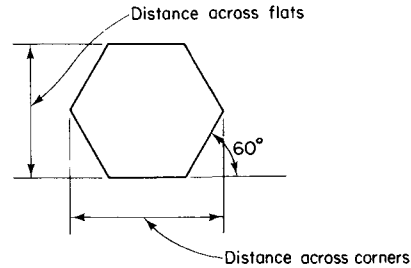

Fig. 3.17
1. THE HEXAGON is a six-sided polygon (Fig. 3.17) with each of the six sides equal in length.